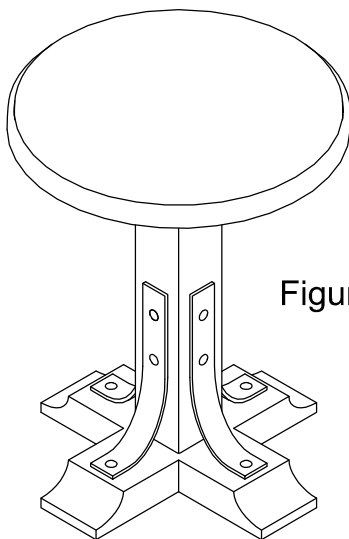

Figure 2
Step 1: Remove the wood extension block from the table base as shown in Figure 1 and place the table upright (Figure 2)